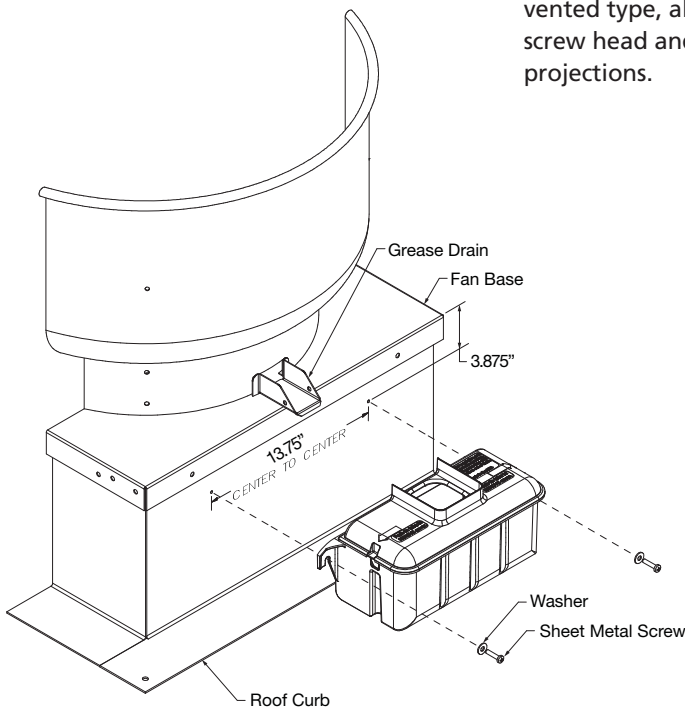

Figure 1 — Attach to Roof Curb
4. Attach container using two supplied sheet metal screw and flat washers. Refer to Figure 1. If roof curb is a vented type, allow space between screw head and container for vent projections.